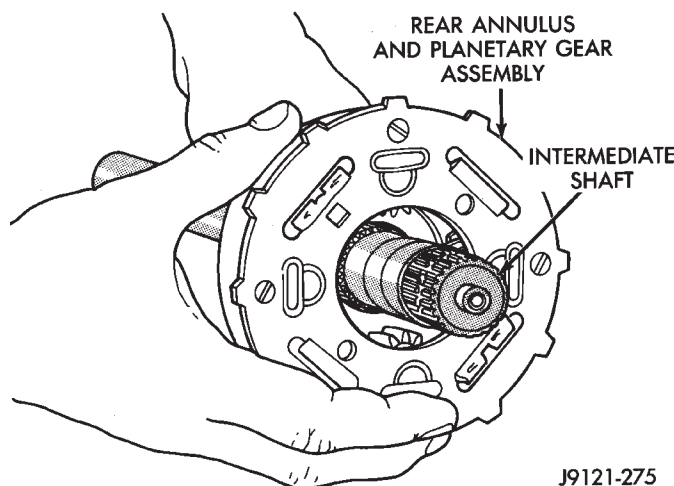

Fig. 71 Installing Assembled Rear Annulus And Planetary Gear On Intermediate Shaft
(5) Install assembled rear planetary and annulus gear on intermediate shaft (Fig. 71). Verify that assembly is fully seated on shaft.